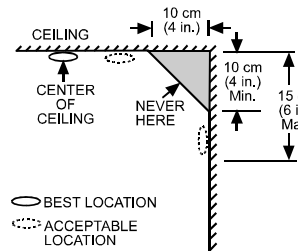

Figure 8. Recommended Best and Acceptable Locations to Mount Smoke Detectors
- Install smoke detectors as close to the center of the ceiling as possible. If this is not practical, put the detector on the ceiling, at least 10 cm (4 inches) away from any wall or corner, as shown in Figure 8.
- If ceiling mounting is not possible and wall mounting is permitted by your local and state codes, locate the detectors between 10 - 15 cm (4 - 6 inches) from the ceiling, also see Figure 8.
- Dead air spaces are often at the top of a peaked roof, or in the corners between ceilings and walls. Dead air may prevent smoke from reaching a detector. See Figures 8 and 9 for recommended mounting locations.